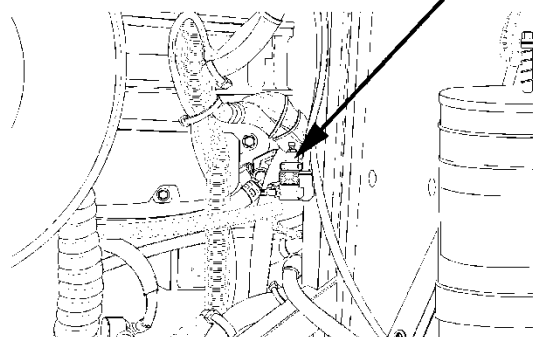

FIGURE 8: AIR PRESSURE REGULATOR (TYPICAL) 07037
18. Adjust the retarder pressure to  $80 \pm 3$  psi with the air pressure regulator. For more information refer to Section 12, "BRAKE AND AIR SYSTEM", under heading "AIR PRESSURE REGULATOR". The air pressure regulator is located at back of engine compartment, on R.H. side (Figure 8) or in the R.H. side rear service compartment.